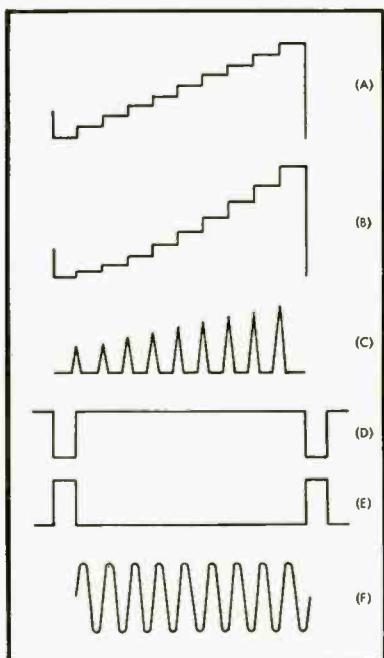
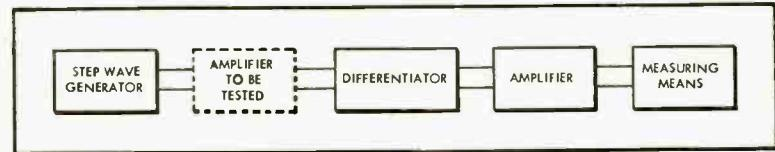

Fig. 2
Fig. 1
The block diagram of Fig. 1 indicates how the nonlinearity "meter" works. The unit first generates a step or staircase wave such as that shown at (A) in Fig. 2. The entire step wave is repeated at an audio frequency which is low enough so that the amplifier to be tested can reproduce the straight sides of the steps. The step wave gives a series of amplitude increments which ideally are equal. The step-wave output of the tested amplifier may then be viewed on an oscilloscope. When the amplitude of each step on the oscilloscope is measured, it is easy to see where in the amplitude range nonlinearities occur. The nonlinear scope presentation of (B) in Fig. 2 is an example. Obviously the output amplitude increase for constant input amplitude increases is greater as the absolute amplitude becomes greater in the wave at (B)—or, to look at it another way, compression is taking place at lower amplitudes.
Measurement of the individual step heights on the scope screen is rather difficult, however, because each step is relatively small. Continuing with Fig. 1, there-
fore, the output step wave is differentiated, a process of passing the step wave through a high-pass filter, usually simply a series capacitor and a shunt resistor. If the cutoff frequency of the differentiator is made sufficiently high with respect to the repetition rate of the step wave, the voltage will fall back to the zero axis during each horizontal stair "tread" and the result will be a series of sharp spikes, each with an amplitude above the zero axis the same as that of the vertical part of the step which produced it. The result of the differentiation of a nonlinear staircase is shown at (C) in Fig. 2. The spike train can be amplified as much as is desired and since each spike is much larger than each stair rise it represents, measurements of the amplitude linearity can be made more easily and accurately. The ideal result is, of course, a straight line increase across the tips. A line outlining the tips at (C) in Fig. 2 would be curved and would show the distortion.